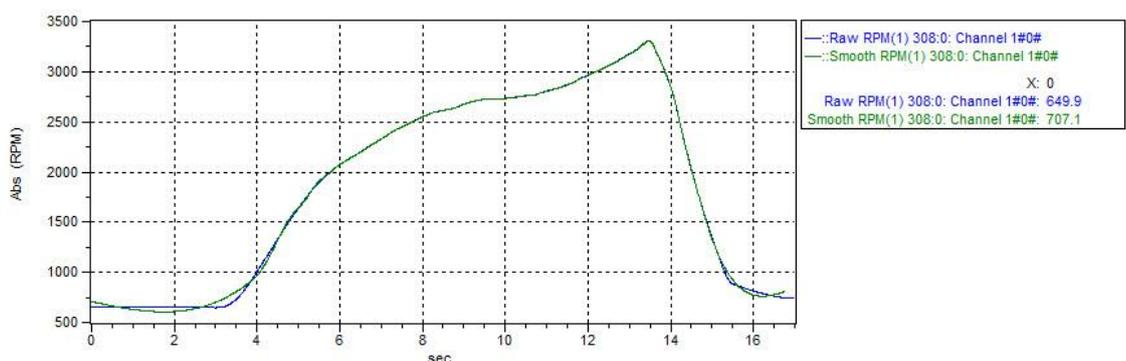

Figure 17: Tachometer processing results = machine speed vs. time
4. ibaRotate displays a plot of the machine RPM as shown in Figure 17. There are actually two curves on the plot. One line is the smoothed (spline-fit) RPM curve. The other line is the Raw RPM curve before ibaRotate applied the spline-fit to smooth the RPM curve.